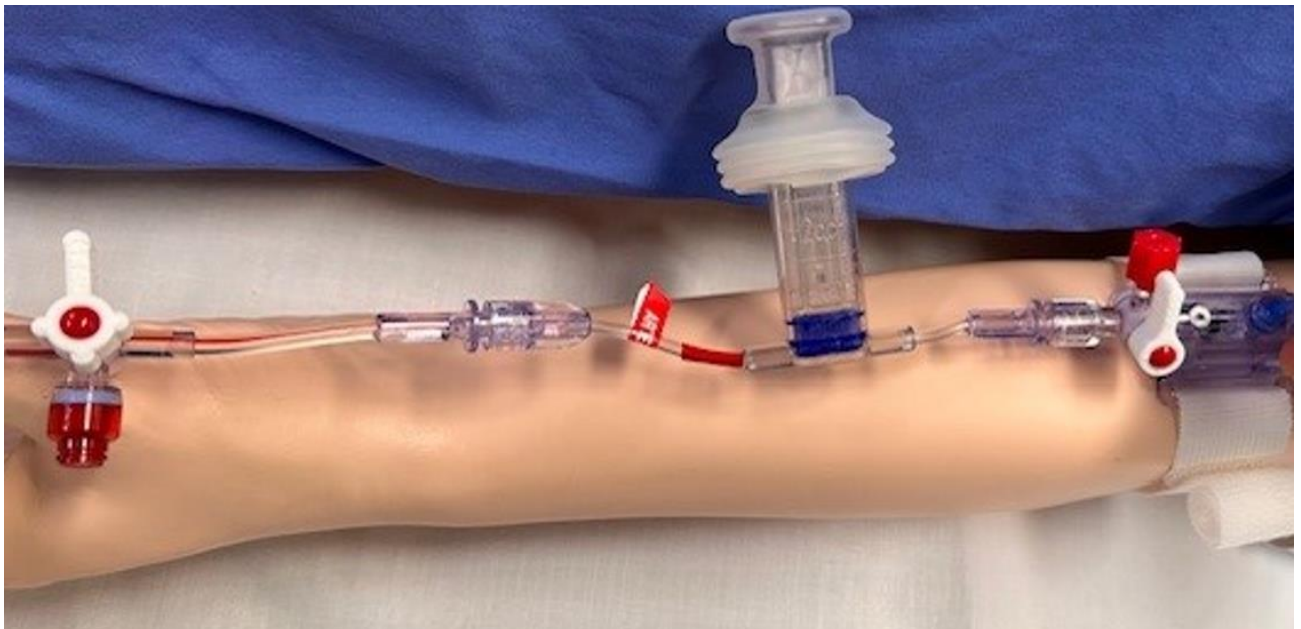

Figure17.
12. Remove the 10 ml syringe and open all three-way taps to allow for arterial blood pressure monitoring again. Final position of three ways shown in figure 17 below.